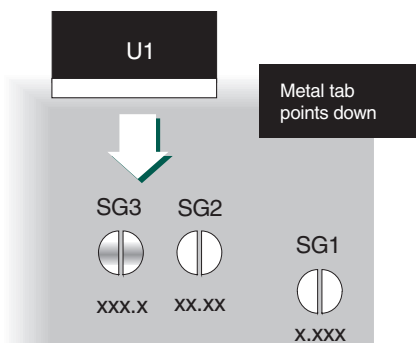

Figure 2. Installing U1
- Battery Operation:** Do not use this feature with blue LED meters. Open SG4 and install U1 (LM7805CT) with its metal tab facing down as shown Figure 2. Allowable input power ranges (J1, pins 5 and 6) are as follows: